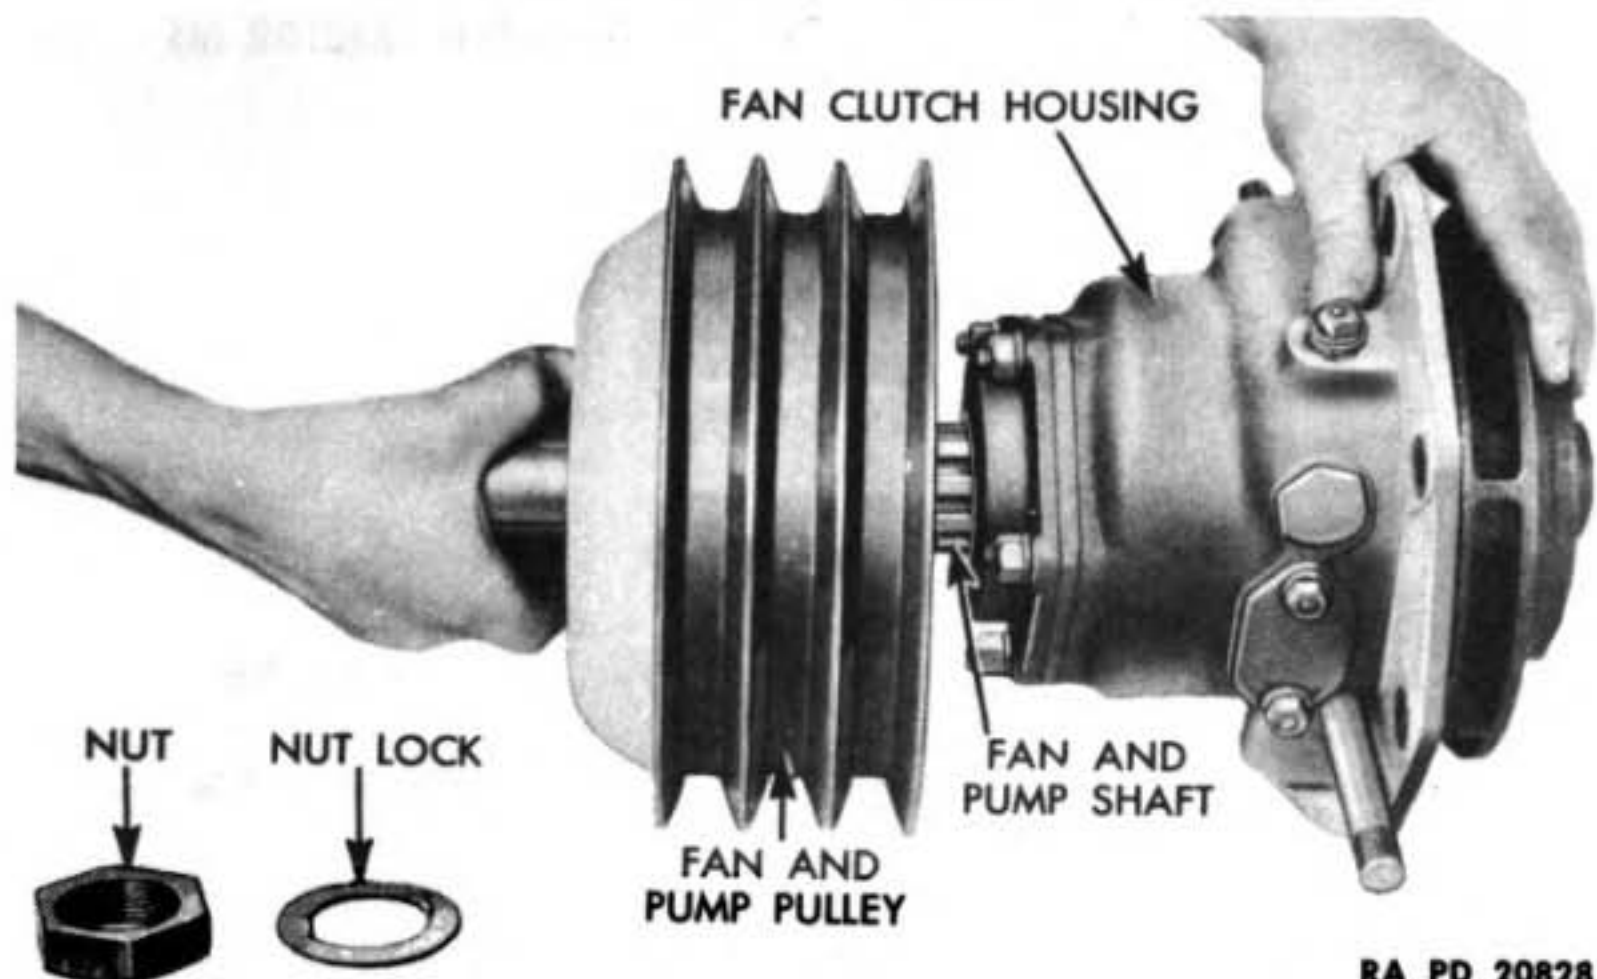

Figure 98 — Removing Fan and Pump Pulley
a. **Remove Fan and Pump Pulley.** Straighten the fan and pump pulley nut lock with a cold chisel (fig. 97). Remove nut and nut lock from shaft. Slide pulley off splined shaft (fig. 98).